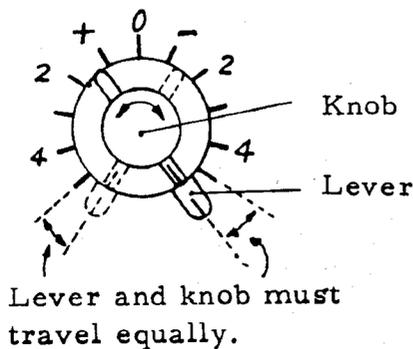

Fig. 6-8
4. Tighten the clarifier/level potentiometer so that lever and knob travel equally for both sides as illustrated in Fig.6-8. Set the knob and lever supplied.